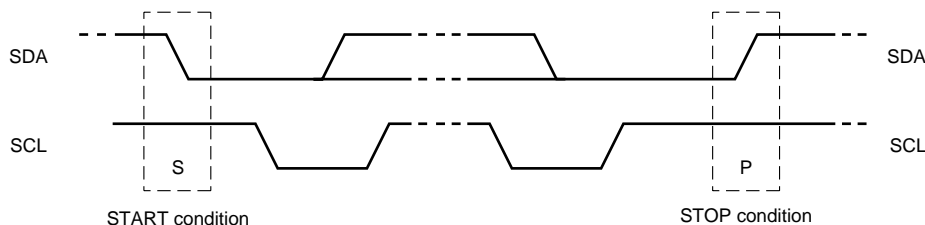

Fig.5 Definition of start and stop conditions.
Both data and clock lines remain HIGH when the bus is not busy. A HIGH-to-LOW transition of the data line, while the clock is HIGH is defined as the start condition (S). A LOW-to-HIGH transition of the data line while the clock is HIGH is defined as the stop condition (P) (see Fig.5).